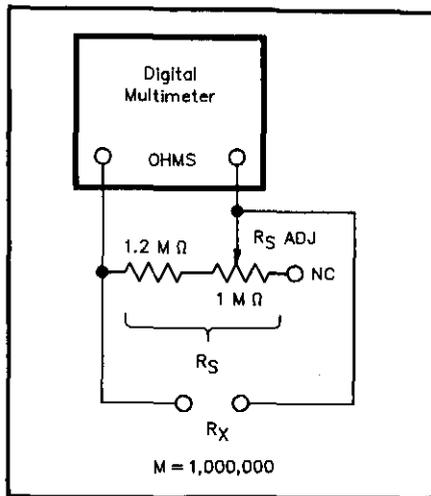

Fig 3—Cornelio Nouel measures resistances above the highest range on his DMM with the help of this circuit and Table 1.
□ My digital multimeter (DMM) measures resistance up to 2 megohms, and this is adequate in most cases. When I need to measure resistances higher than 2 MΩ, I use the circuit shown in Fig 3. When two resistors are connected in parallel, the resultant resistance is always lower than the value of the lower resistor. The unknown resistance can be found from the formula:
As Fig 3 shows, my  $R_S$  consists of a 1.2-MΩ fixed resistor in series with a 1-MΩ potentiometer (wired as a rheostat); I adjust the pot so that  $R_S = 2$  MΩ. Next, I connect  $R_X$  to the circuit and read  $R_T$  on the DMM. Then I solve for  $R_X$  with Eq 1. Table 1 shows the DMM ( $R_T$ ) readings